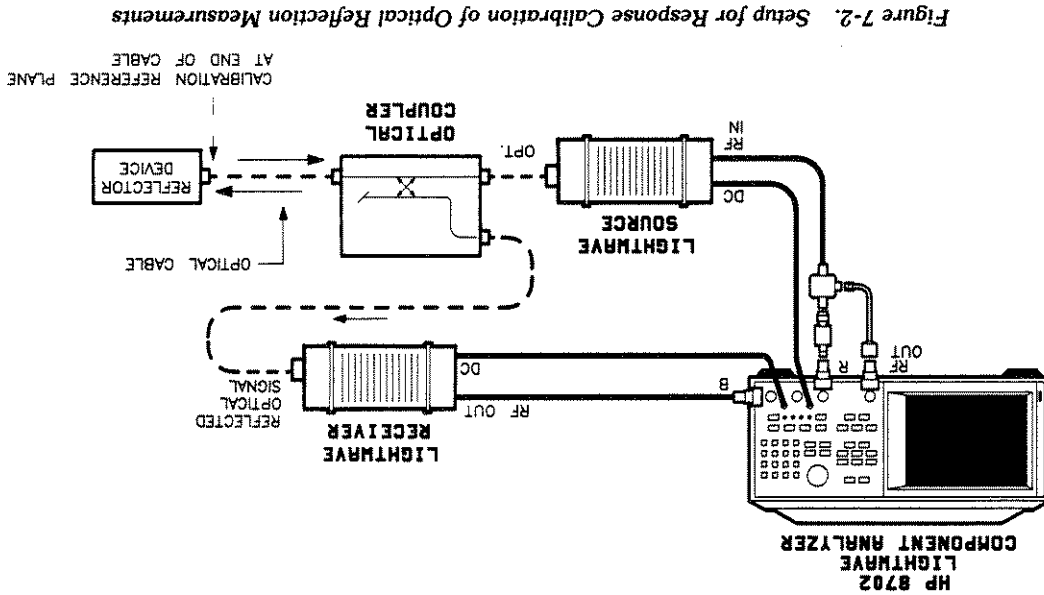

Figure 7-2. Setup for Response Calibration of Optical Reflection Measurements
- Connect the system as shown in Figure 7-2 without the reflector device. Setup the stimulus parameters for the measurement.
- Connect the system as shown in Figure 7-2 with the reflector device. Setup the stimulus parameters for the measurement.
- Connect the system as shown in Figure 7-2 with the selected reflection measurement standard. Setup the stimulus parameters for the measurement.